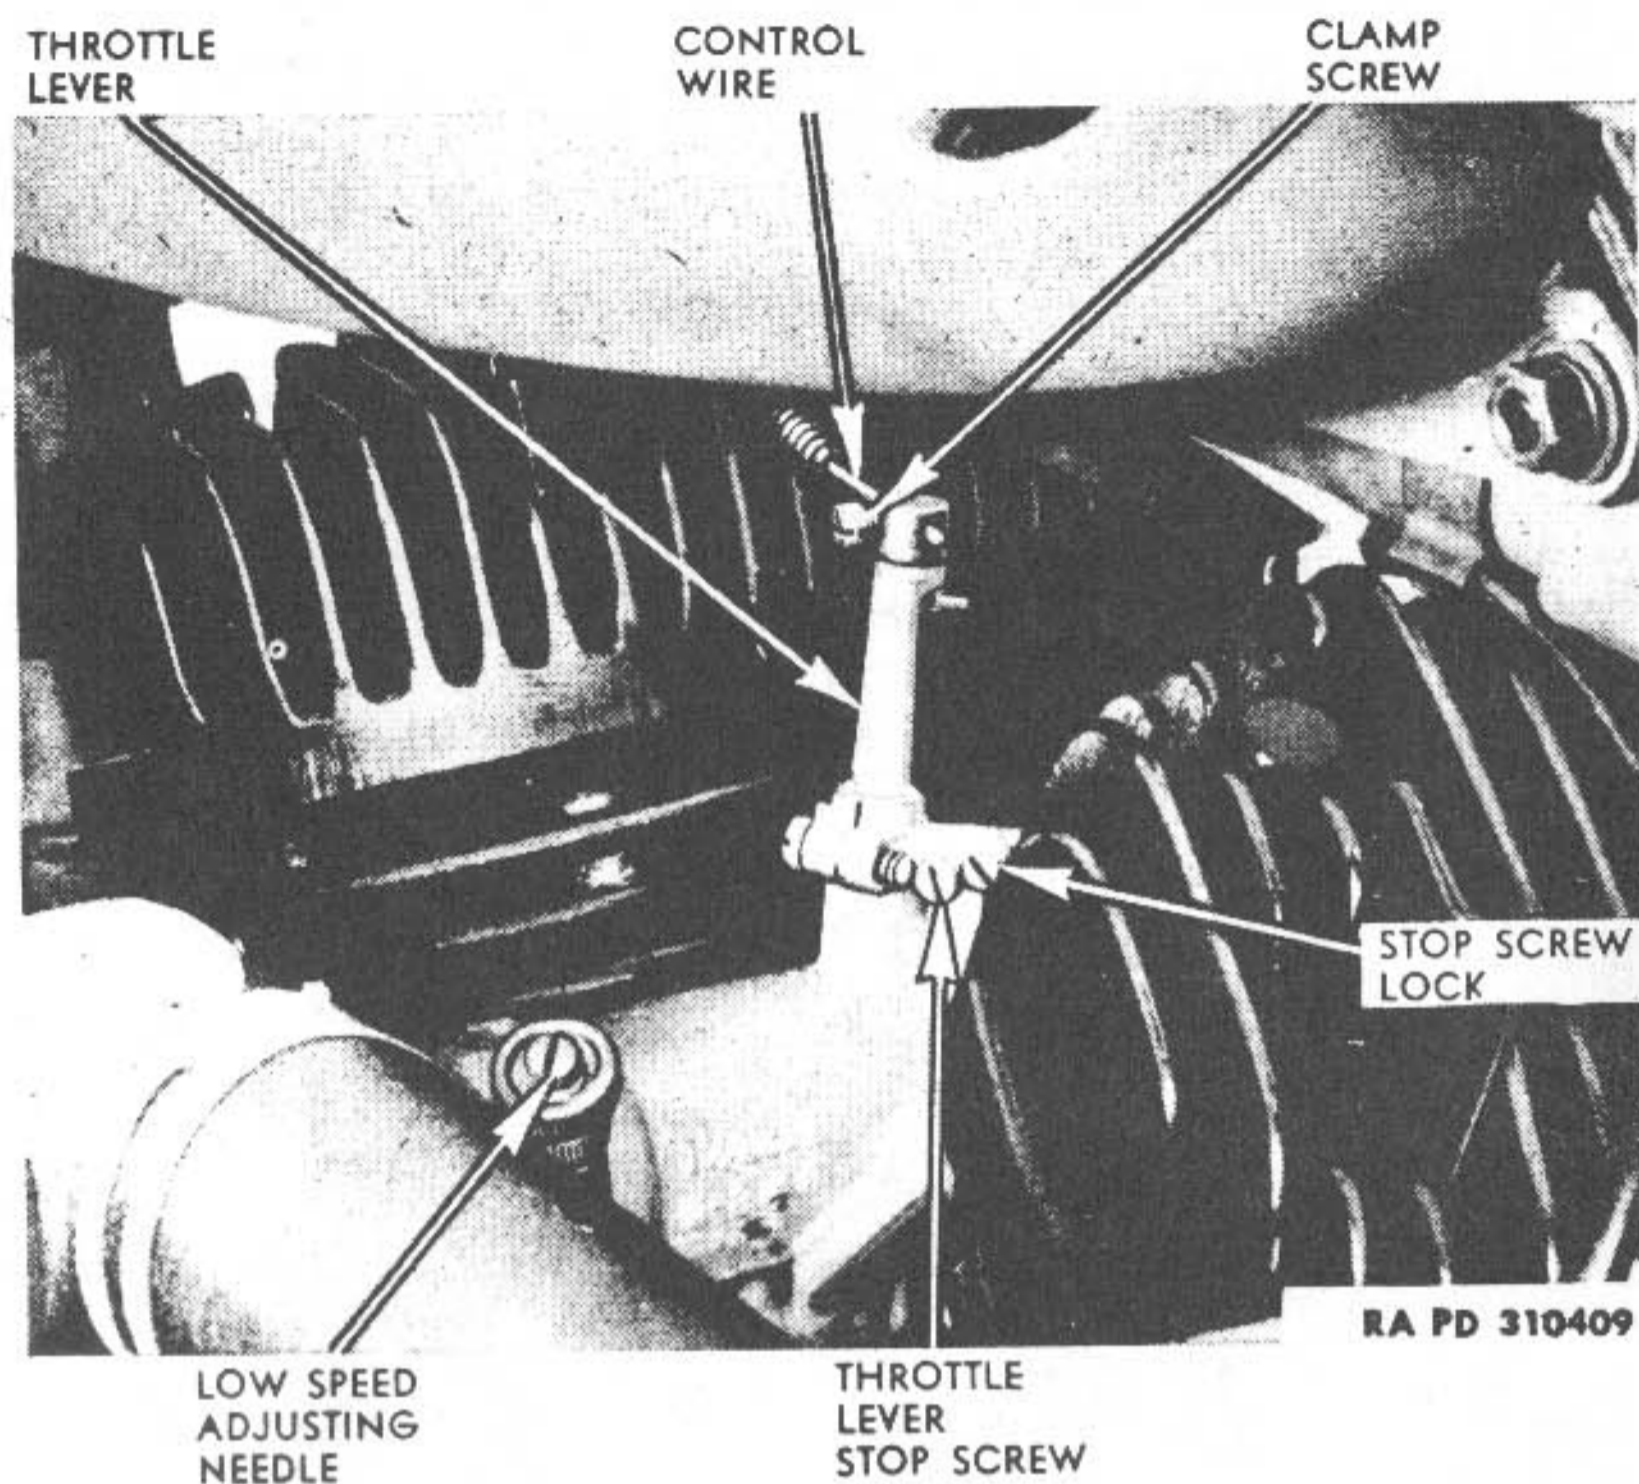

Figure 25—Carburetor Control Lever and Low Speed Needle Valve
(4) Turn down valve spring covers with special wrench (41-W-3617).
b. **Carburetor Control** (fig. 25). Adjustment for full opening and closing of throttle to correspond with full inward and outward motion of the handlebar grip is made at the junction of the control wire end and the throttle lever connection.
(1) Enter end of control wire in throttle lever connection hole. Turn right handlebar grip outward as far as it will go; then turn it inward slightly. Holding throttle grip in this position, move throttle lever forward against its stop (closed position) and secure wire in connector block with clamp screw. Check closing of throttle after
(2) Check full opening of throttle by turning right grip inward as far as it will go and see that throttle lever is against its stop (full open position). If necessary reset the control wire in connector block until full open and closed positions are obtained.
c. **Carburetor Adjustment** (fig. 25). A carburetor that is badly out of adjustment, or a new carburetor just installed, must be adjusted as follows:
(1) Turn the low speed needle valve (on rear of carburetor body) all the way down (to right); then back it out (to left) about three full turns. With needle valve in this position, engine will start, but mixture will probably be too rich.